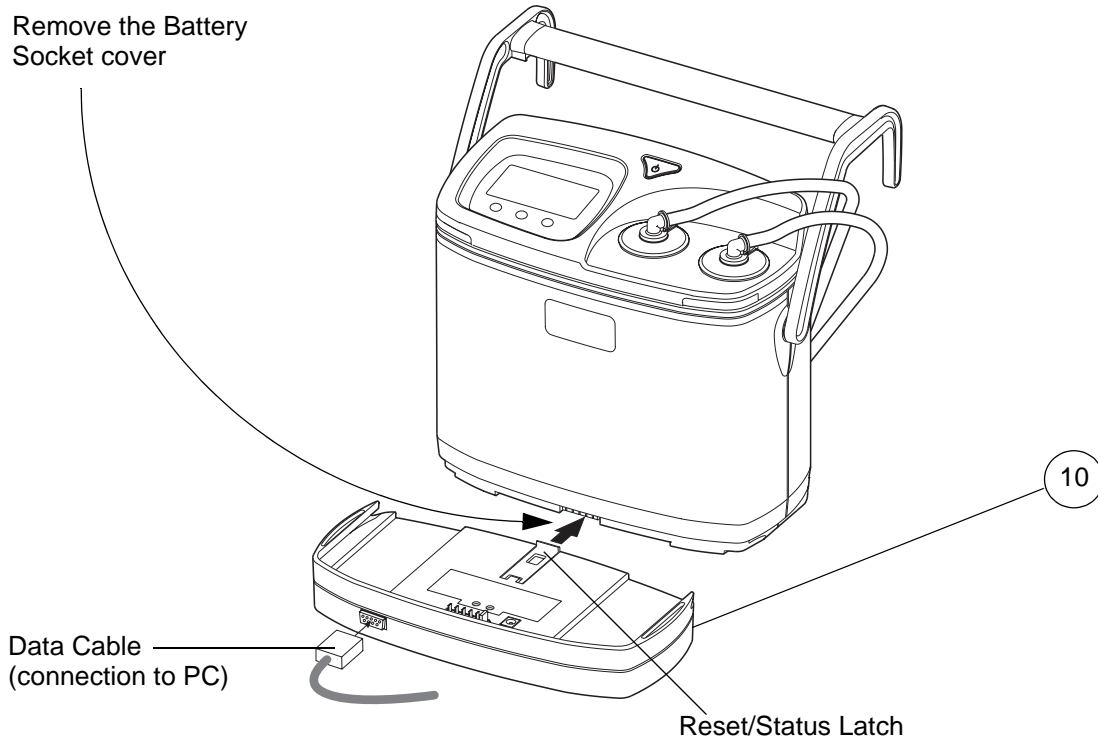

Figure 78 - Test Equipment
- 3.1 The connection between the pump and the PC (laptop or desktop) is via the Serial Communications Pack (Fig 78, Item 10). The Serial Communications Pack is installed directly onto the bottom of the pump. The Serial Communications Pack connects to a serial communications port on the PC via an external cable and to the pump via an internal serial link.
- 3.2 To install the Serial Communications Pack onto the pump (refer to Figure 78):
- 3.3 To remove the Serial Communications Pack from the pump (refer to Figure 78):
Make sure that the Communicator software is installed on the PC (Refer to Chapter 4 “Installing the Communicator Software”) and that the Serial Communications Pack (Fig 78, Item 10) is connected to the base of the pump and to the PC via the Data Cable (refer to Page 9, Section 3).